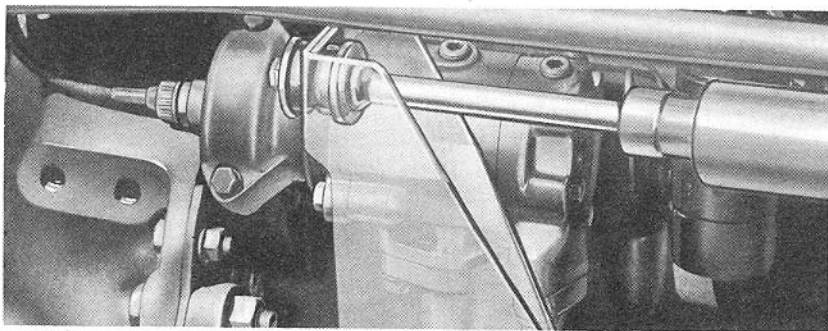

Figure 13
**Hydraulic Piston Pump:** Your new Ford Tractor is equipped with a piston pump, containing six pistons. The pump, shown in Figure 13, is gear driven and provides a constant flow of oil to the Ford Tractor "live action" hydraulic system in volumes which are proportional to engine speeds. For maximum efficiency of operation and long pump life, always use the recommended hydraulic fluid (Ford Spec. M-4864-A or M-2C41) when filling the tractor hydraulic reservoir. Always use clean containers for this operation. When service on the hydraulic system becomes necessary, see your local Ford Tractor and Implement Dealer. He is properly trained and equipped to meet your service needs.